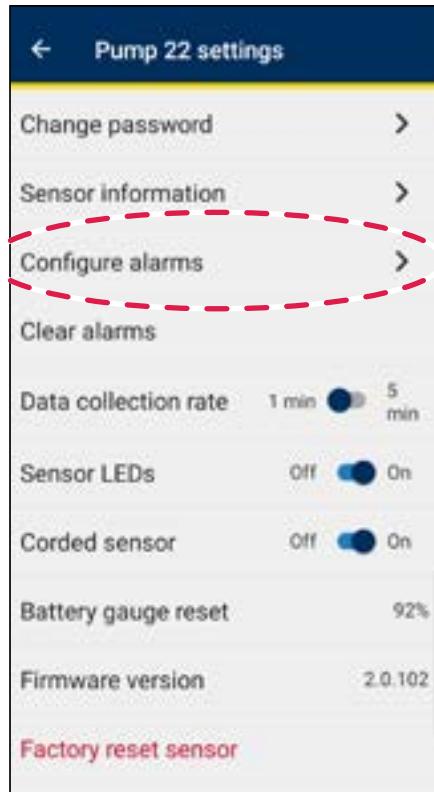

Figure 7
2. Select **Configure Alarms** (see figure 7).